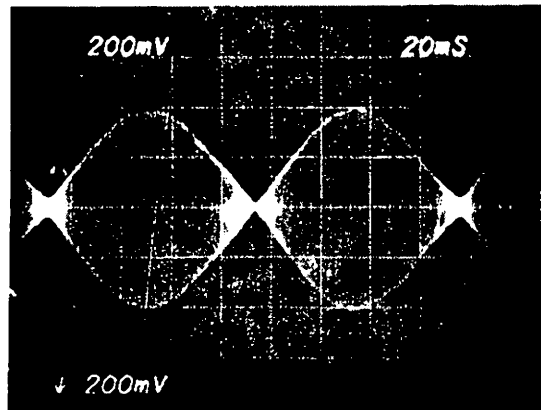

FIGURE 7 HEAD RADIAL ALIGNMENT
- d. A cat's eye pattern should be observed (Ref. Figure 7).